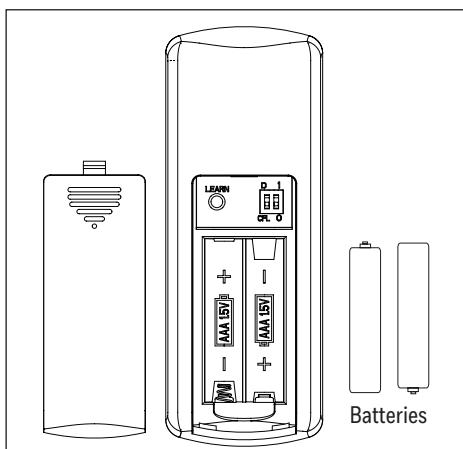

Figure 6.1
1. Use a flat-head screwdriver, if necessary, to remove the battery cover from the back of the remote found in remote pack. Insert two batteries into the remote; ensure polarity of batteries match the polarity indicated in the battery compartment -- positive (+) to positive (+) and negative (-) to negative (-). Replace the back cover and press the fan on/off button on the remote to ensure the LED indicator illuminates and the remote turns on the fan (Figure 6.1).
Remote does not work.	<ol style="list-style-type: none"> 1. Power surge may have cleared the memory and remote needs to be resynced to the receiver. Syncing instructions: Turn off the power at the breaker box for at least 10 seconds and then turn the power back on. Within 30 seconds, press and hold the "LEARN" button (Figure 6.1) on the back of the remote for 3 seconds. The fan will turn on at high speed and light will blink twice and stay on, signaling a successful synchronization. 2. Insert new AAA batteries in battery compartment of the wall control. 3. If there are several remote fans in proximity, turn the power off to those fans and re-sync the fan.